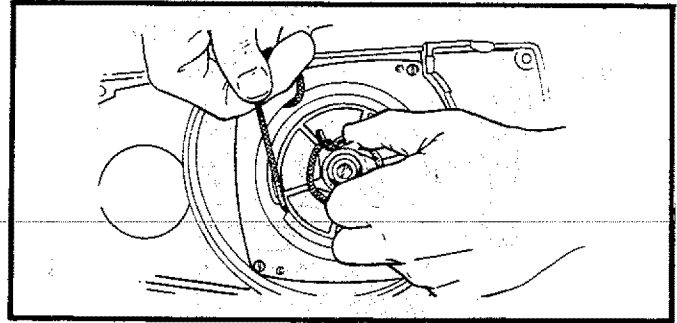

Figure 51
15. Pull out 12 inches of rope and catch the rope in the slot in the pulley. Figure 51.